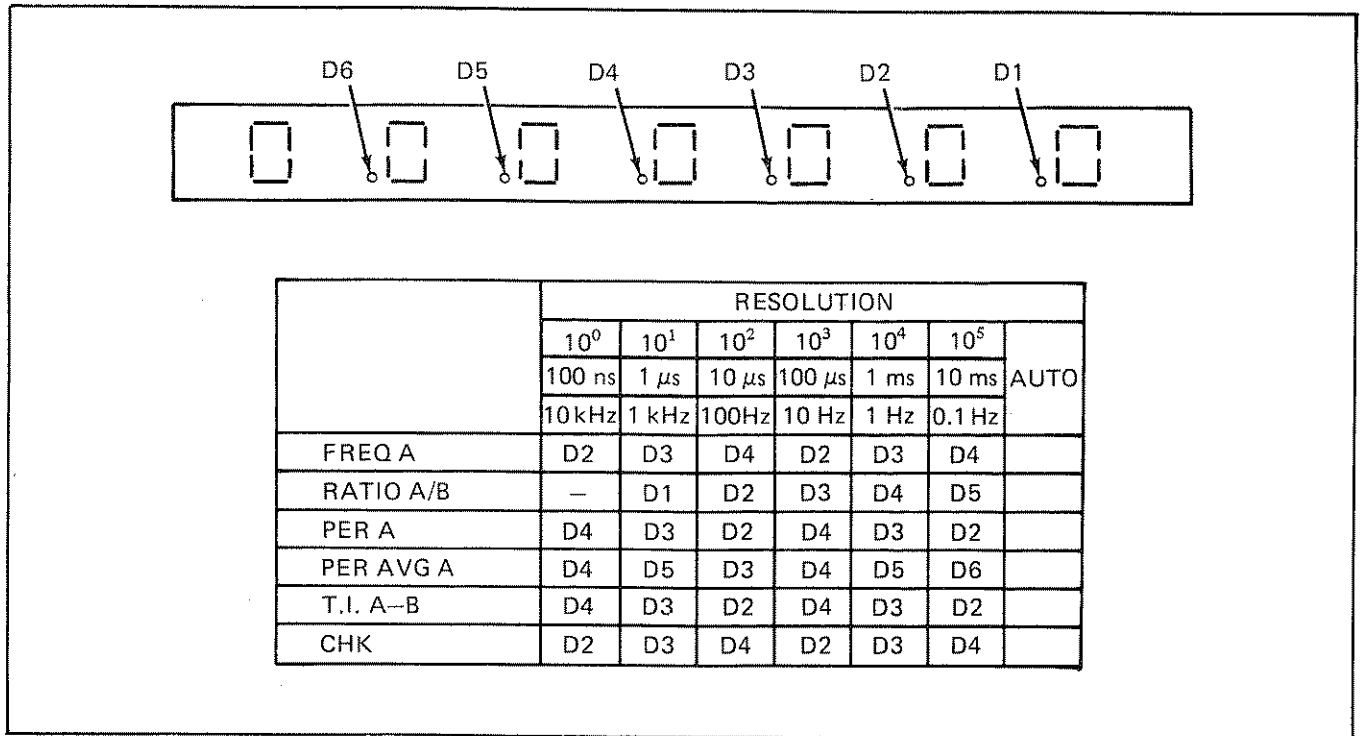

Figure 2-10. Decimal Point Identification
2-81. The 7250A display presents a seven digit LED readout with leading zero suppression. Measurement unit annunciators of MHz or kHz will be activated in FREQ A or CHK modes. For PER, PER AVG A, or T.I. A-B, annunciators for μ sec, msec, or sec will illuminate. There will be no units annunciation in RATIO A/B, TOT A, or CPM X100A modes. Decimal point placement is determined by RESOLUTION and FUNCTION settings, as defined by Figure 2-10.
3. **FREQ A** and **PER A** functions can be used selectively to maximize accuracy of frequency measurements over the range of Channel A. The relationship between the two measurement functions is shown in Figure 2-10. The following can be drawn by this function comparison.